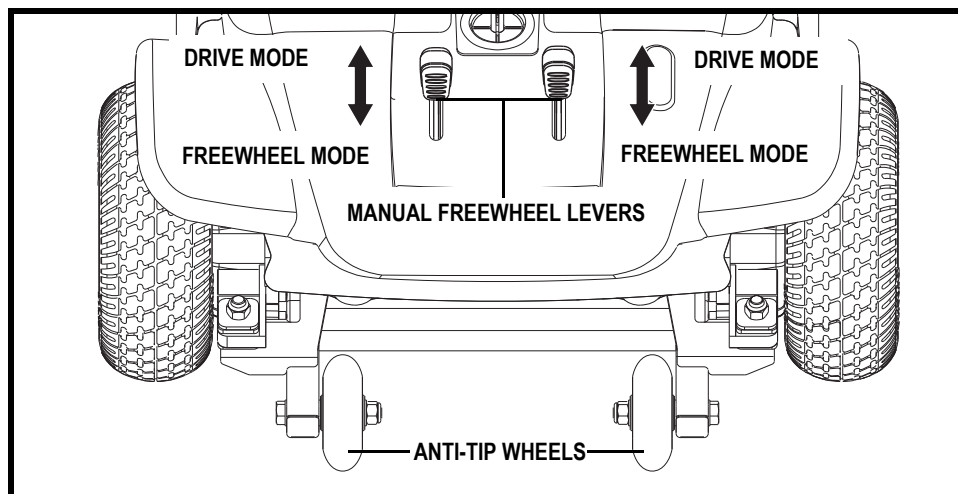

Figure 3. Back of Power Base
1. Locate the levers on the rear section of the power base. See figure 3.
The anti-tip wheels are an integral and important safety feature of your Go-Chair. They are bolted to the frame at the rear of the chair. See figure 3.